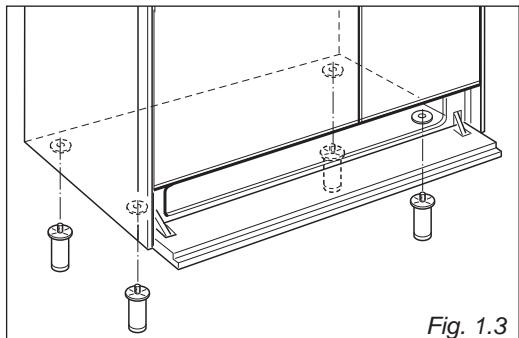

*Fig. 1.2*
Before installing the cooker, assemble the backguard "C" (fig. 1.2).
- Assemble the backguard as shown in figure 1.2 and fix it by screwing the central screw "B" and the spacers "A".